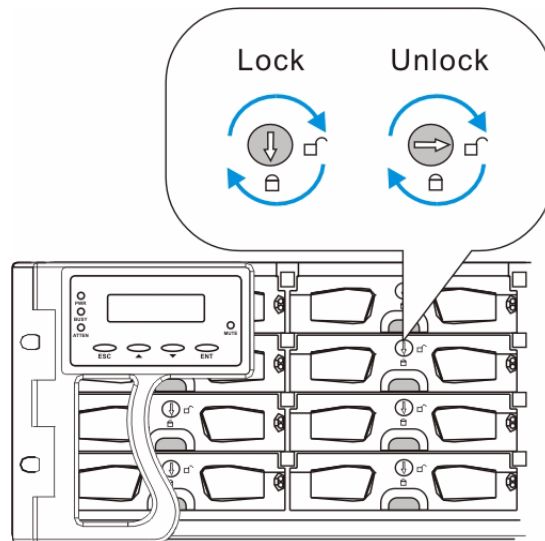

Fig. 3.4 Drive Tray Key-lock Rotation
5. Lock the flap into place by turning the key-lock until the groove on its face is pointing down (vertical orientation). (See *Figure 3.4*)